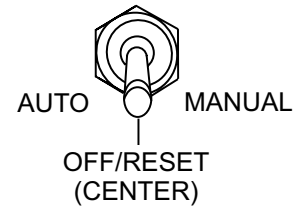

Figure 75. Auto Off/Reset Manual Switch (Off/Reset Position)
- Place the Auto Start/Stop Switch (Figure 75), to the "Off /Reset" position.